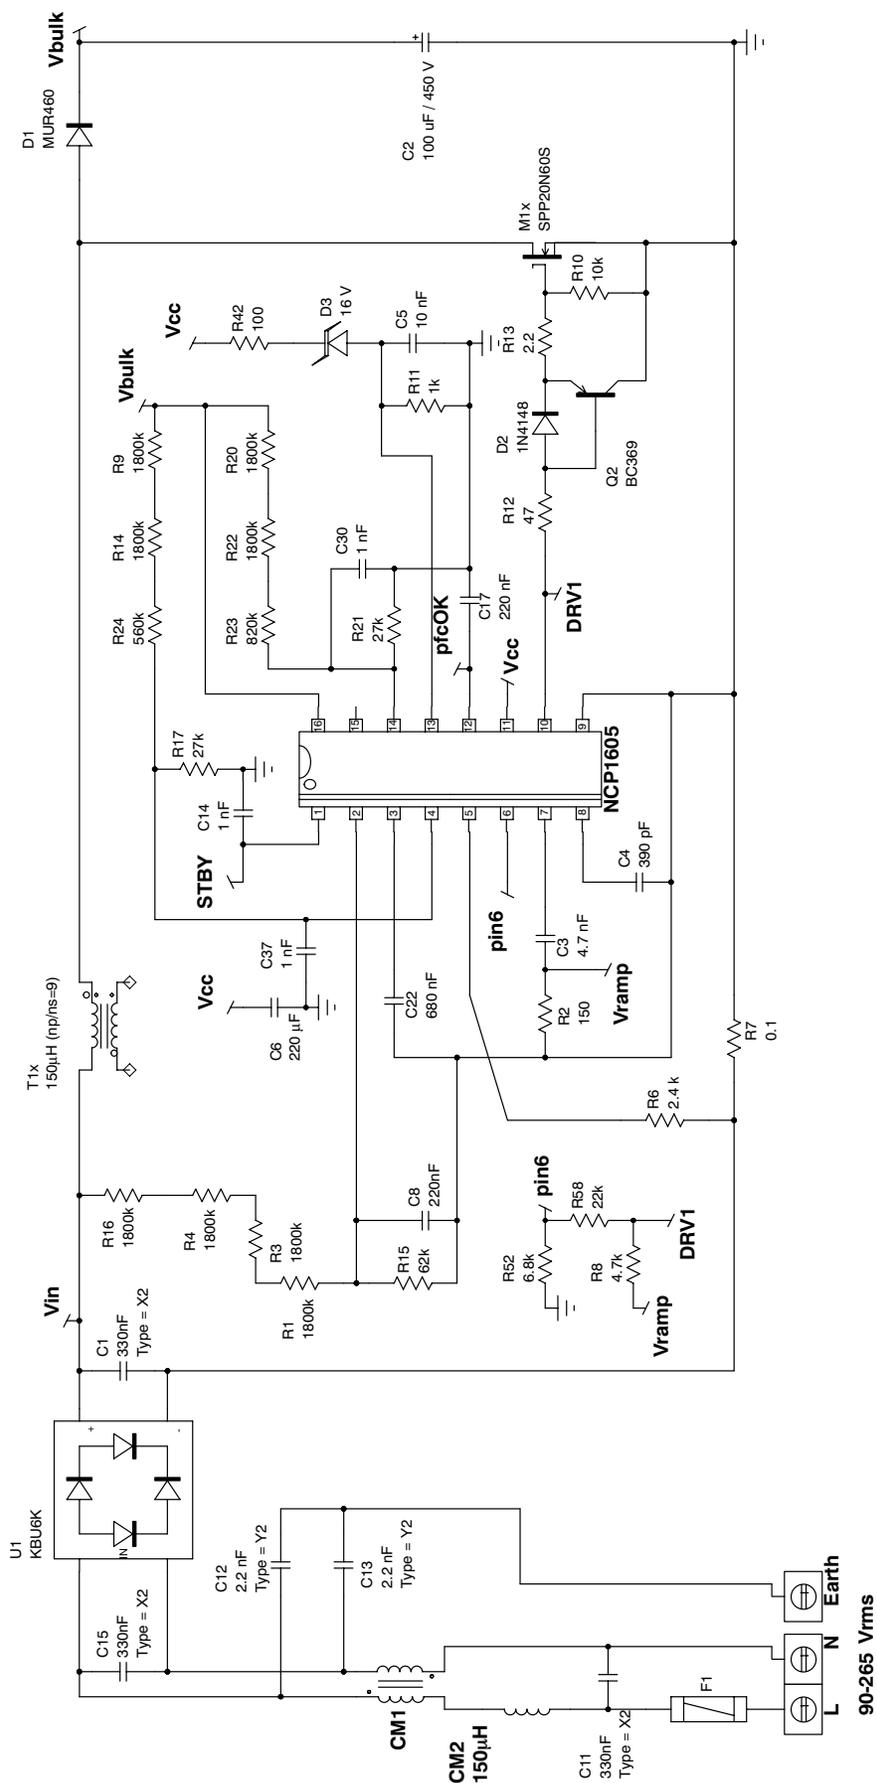

Figure 2. Application Schematic - PFC Stage
- Shut-down: if more than 2.5 V are applied to pin 13, the circuit latches off and cannot recover operation until the SMPS is unplugged (to enable the NCP1605 V_{CC} voltage to drop below its 4 V reset voltage). This latching capability is supposed to trigger in case of a major fault like any overheating of the SMPS. In this application, it is used to disable the power supply in case of a severe runaway of the V_{CC} voltage. This is simply made by applying the V_{CC} voltage through a 16 V zener diode (D3) so that if $(V_{CC}-16 \text{ V})$ exceeds 2.5 V, the circuit latches off (see Figure 2). R11 adjusts the biasing current through D3 and together with R42 and C5, this resistor avoids that the protection falsely triggers due to some noise. R42 is chosen small compared to R11 not to modify the threshold since the actual voltage applied to pin 13 is: